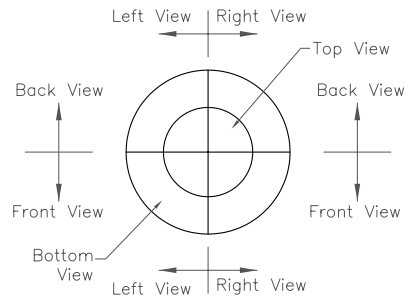

Figure 2-26 The directions of the compass
1. If you select a point inside the smaller circle in the first quadrant, the resultant view will be the Right, Back, or Top view. If you select a point outside the smaller circle and inside the bigger circle in this quadrant, the resultant view will be the Right, Back, or Bottom view, refer to Figure 2-26.
2. If you select a point inside the smaller circle in the second quadrant, the resultant view will be the Left, Back, or Top view. If you select a point outside the smaller circle and inside the bigger circle in this quadrant, the resultant view will be the Left, Back, or Bottom view, refer to Figure 2-26.
3. If you select a point inside the smaller circle in the third quadrant, the resultant view will be the Left, Front, or Top view. If you select a point outside the smaller circle and inside the bigger circle in this quadrant, the resultant view will be the Left, Front, or Bottom view, refer to Figure 2-26.
4. If you select a point inside the smaller circle in the fourth quadrant, the resultant view will be the Right, Front, or Top view. If you select a point outside the smaller circle and inside the bigger circle in this quadrant, the resultant view will be the Right, Front, or Bottom view, refer to Figure 2-26.